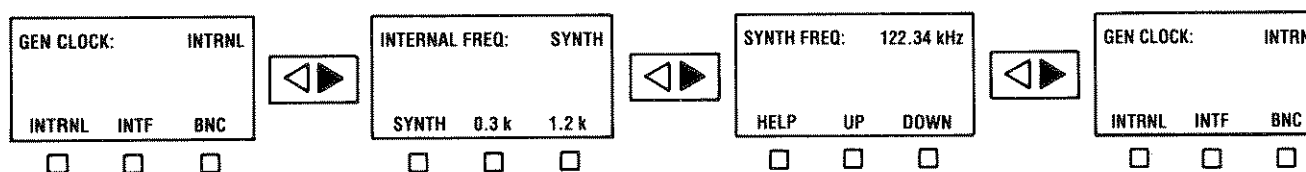

Figure 4-10
- (1) Select the GENERATOR CLOCK category, INTERNAL FREQ, SYNTH FREQ menu, as shown in Figure 4-10.
- (2) Use the cursor keys to move the cursor and the **UP** and **DOWN** softkeys to key in the digits for the required frequency. Each position can be changed from 0 - 9 and "." (decimal). The frequencies must be entered in kHz and the decimal point can be added as appropriate.
- (3) Once the frequency is keyed in, press the ENTER key to save the frequency.